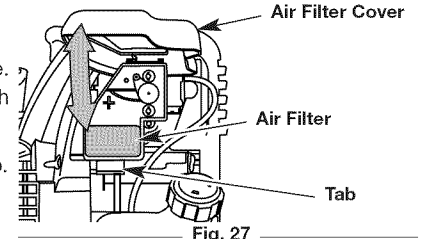

Fig. 27
1. Open the air filter cover. Push the tab on the under side of the cover inward. Then pull the air filter cover out and up. (Fig. 27).
7. Reinstall the air filter cover. Position the slots on the top of the air filter cover onto the tabs at the top of the back plate (Fig. 27).
8. Swing the cover down until the tab on the air filter backplate snaps into place in the slot on the air filter cover (Fig. 27).